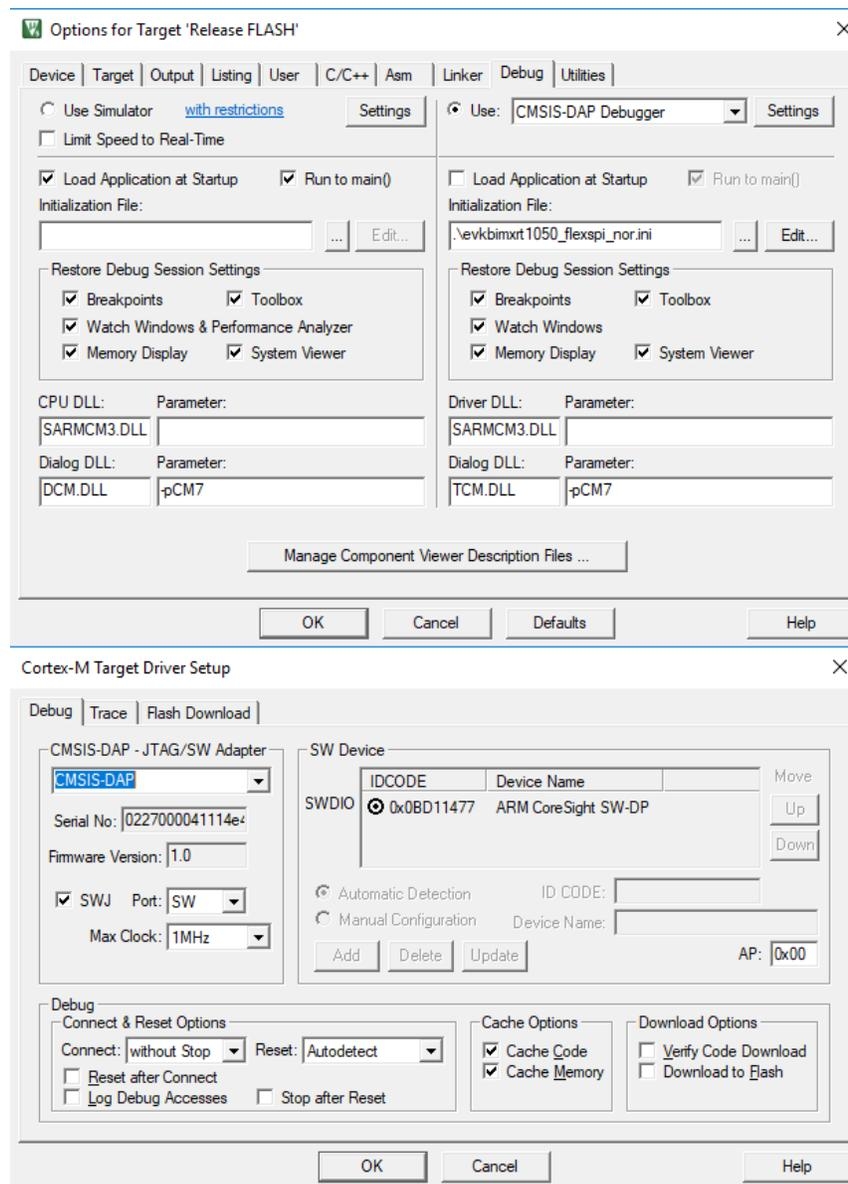

Figure 27. Keil—“Release FLASH” debugger settings
3. Select CMSIS-DAP as the debugger. Go to “Project->Options For Target->Utilities” tab and uncheck “Update Target before Debugging”. Switch to the “Debug” tab and set the options as shown in Figure 27.